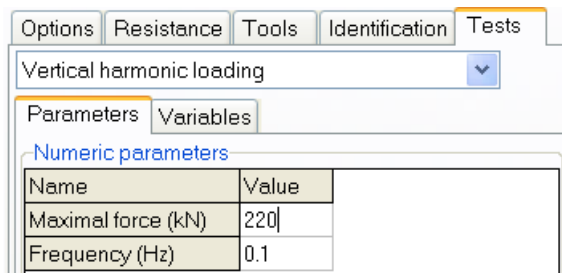

Fig. 51 Test parameters
1) Select the corresponding type of the test and set parameters of the harmonic vertical force, Fig. 51.